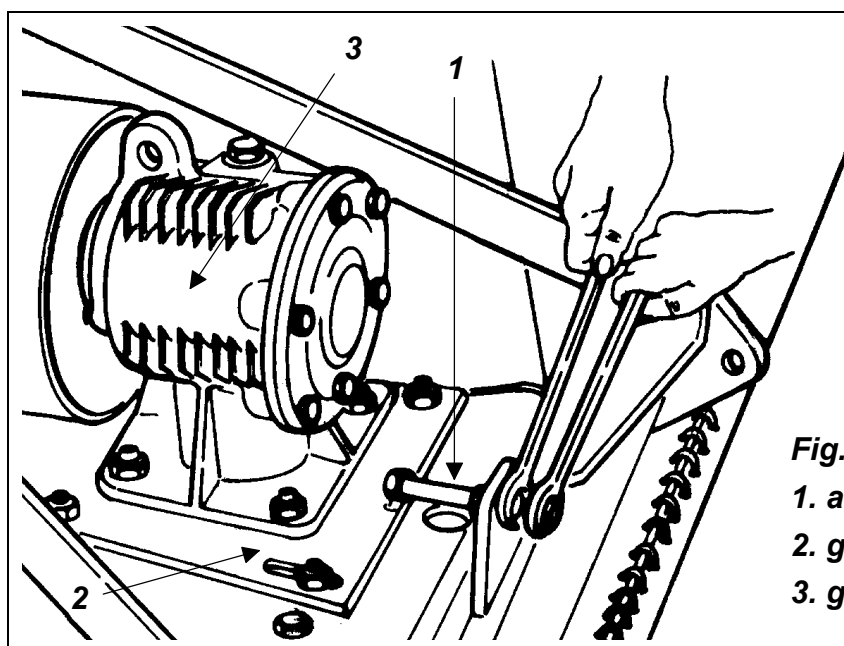

Fig. 10
To adjust the tension of the C70, do the following (see fig. 10):
4. Turn the adjustment bolt clockwise, pushing the gearbox support plate forward until all tension is released (**see fig. 10**).
To remove the gearbox do the following (see fig. 10):
2. Remove the safety nut holding the pulley to the spindle shaft (see fig. 10). Remove the pulley.